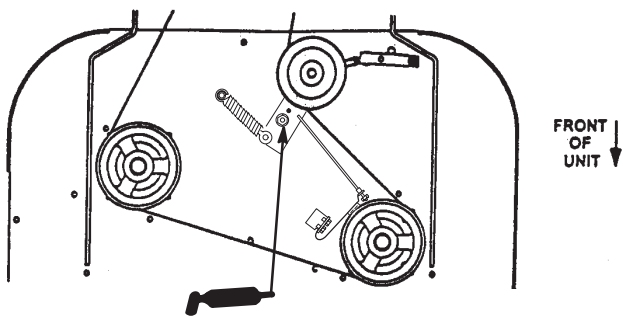

Figure 40
- Lubricate the blade belt idler arm pivot. (Fig. 40). Lubricate every 50 hours.